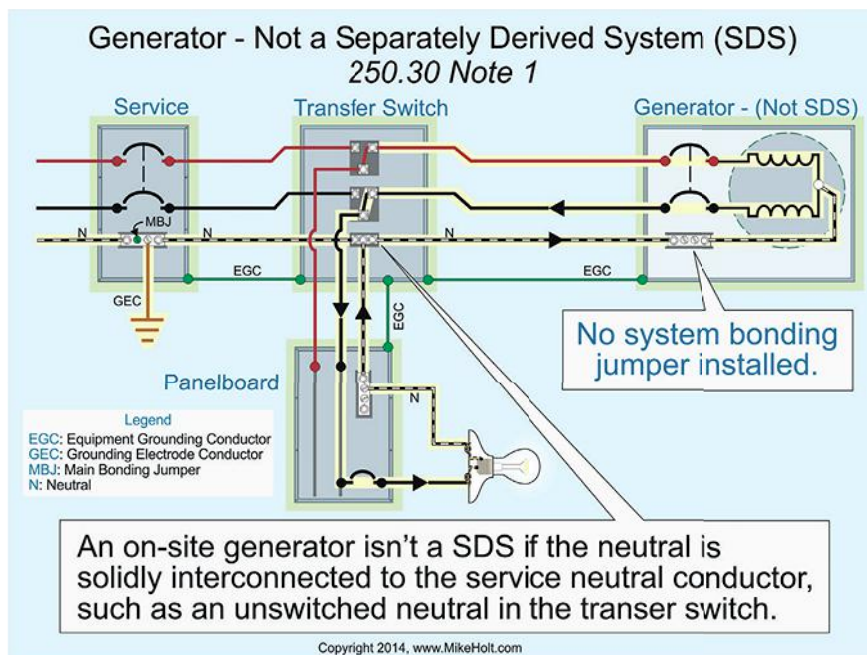

Fig. 2. See Art. 100 for a definition of a separately derived system.
**A.** An alternating-current power source such as an on-site generator isn't a separately derived system if the neutral conductor is solidly interconnected to a service-supplied system neutral conductor. An example is a generator provided with a transfer switch that includes a neutral conductor that's not switched [250.30 Note 1], as shown in Fig. 2 on page 43.